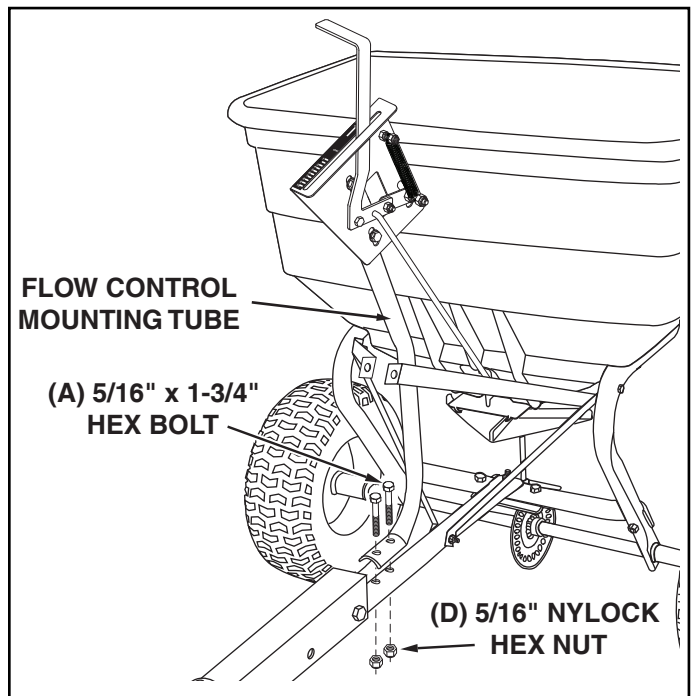

FIGURE 7
- Assemble the flow control mounting tube to the hitch tube using two 5/16" x 1-3/4" hex bolts (A) and 5/16" nylock hex nuts (D). **DO NOT TIGHTEN YET.** See figure 7.